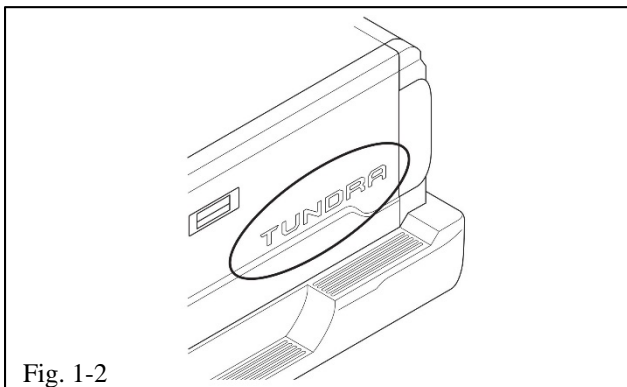

Fig. 1-2
- (c) Clean the surface thoroughly and wipe dry immediately with a new clean cloth. Do not allow cleaner to air dry (Fig. 1-2).